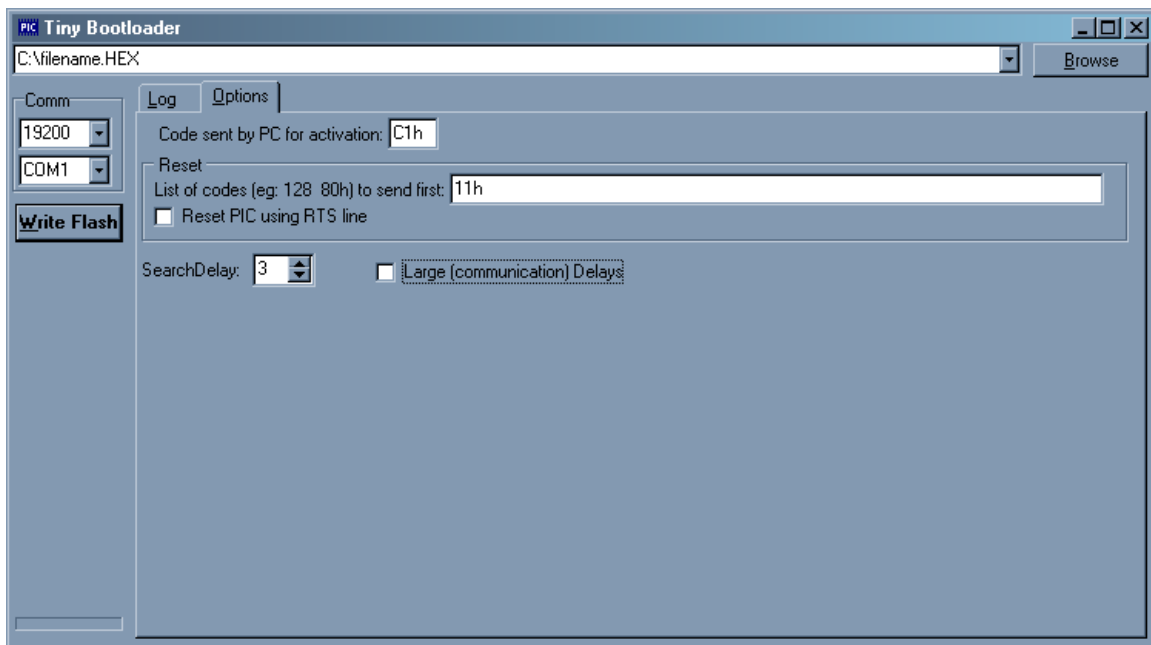

Figure 3
- 4) Click on the Options tab and in the Reset List of codes put “11h” (see Figure 3).